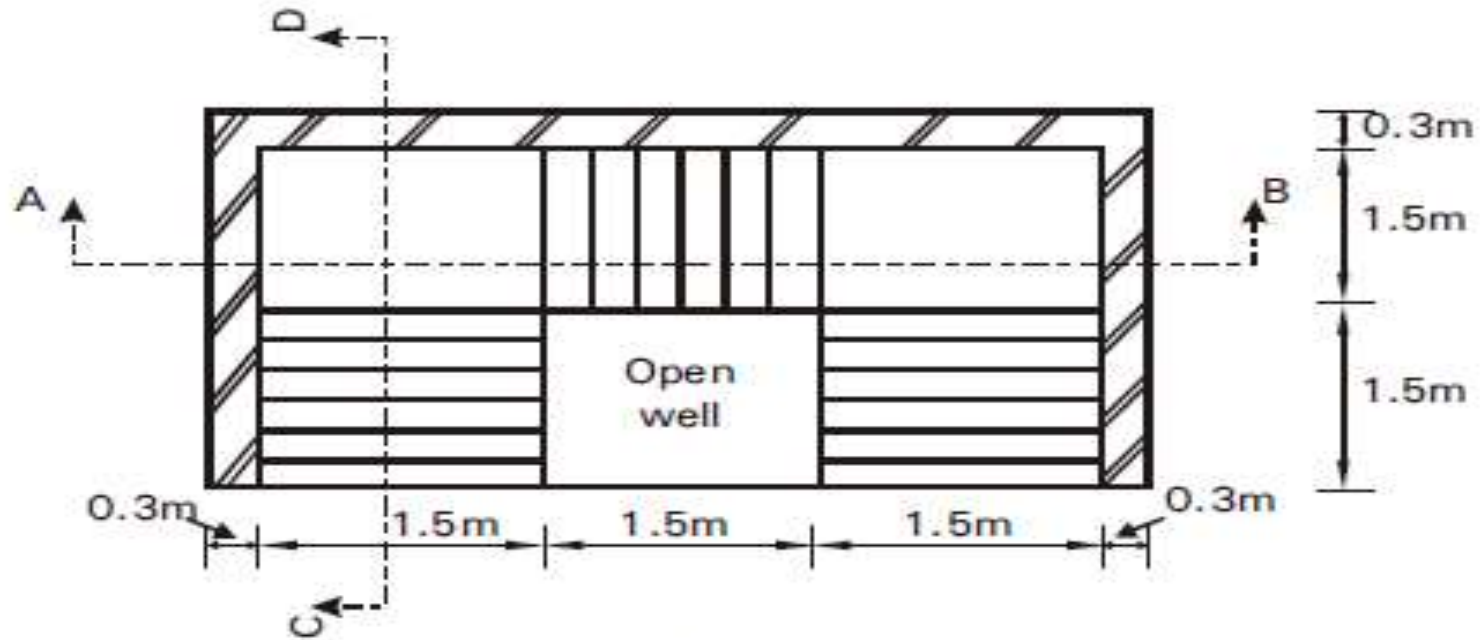

Fig. 4.13
3. Design a stair for an office building for the plan shown in Fig. 4.13. Rise 150mm, Tread 250mm, wall thickness 300mm. Use M20 concrete and Fe415 steel. Sketch the details of reinforcement for span AB and CD.